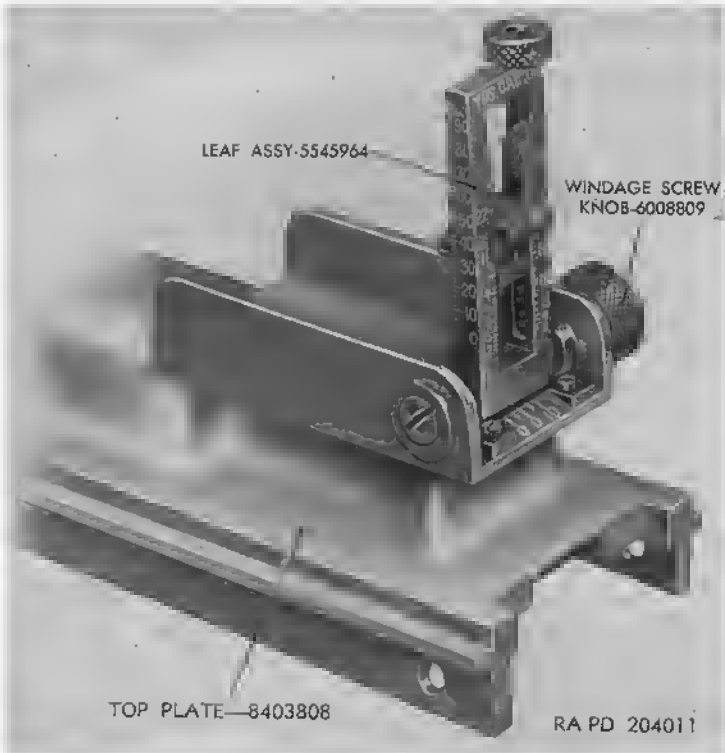

Figure 29. Rear sight group.
- (1) Remove rear sight leaf assembly (figs. 29 and 30) from the top plate on casing assembly as described in (a) and (b) below.